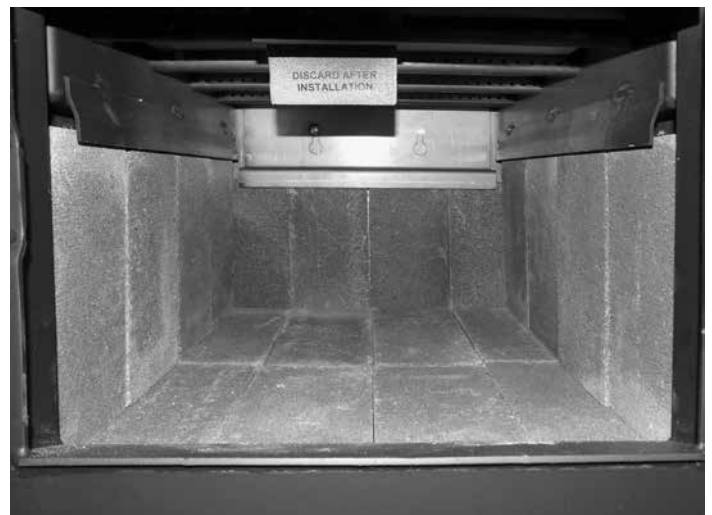

Figure 28: Remaining side wall bricks installation.
5. Using the same method, place three more bricks along one of the side walls. Figure 28